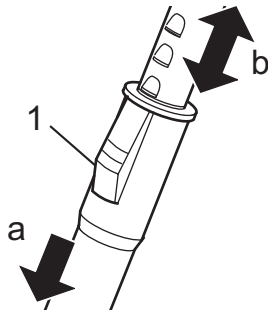

Fig.5
5. Adjust the length of the telescopic tube. To do this, press the telescopic tube lock (Fig. 5/1) forwards (Fig. 5/a). Then pull the telescopic tube by the handle (Fig. 1/1) to the desired length (Fig. 5/b). To lock it, release the telescopic tube lock when you let go. You will hear an audible click.